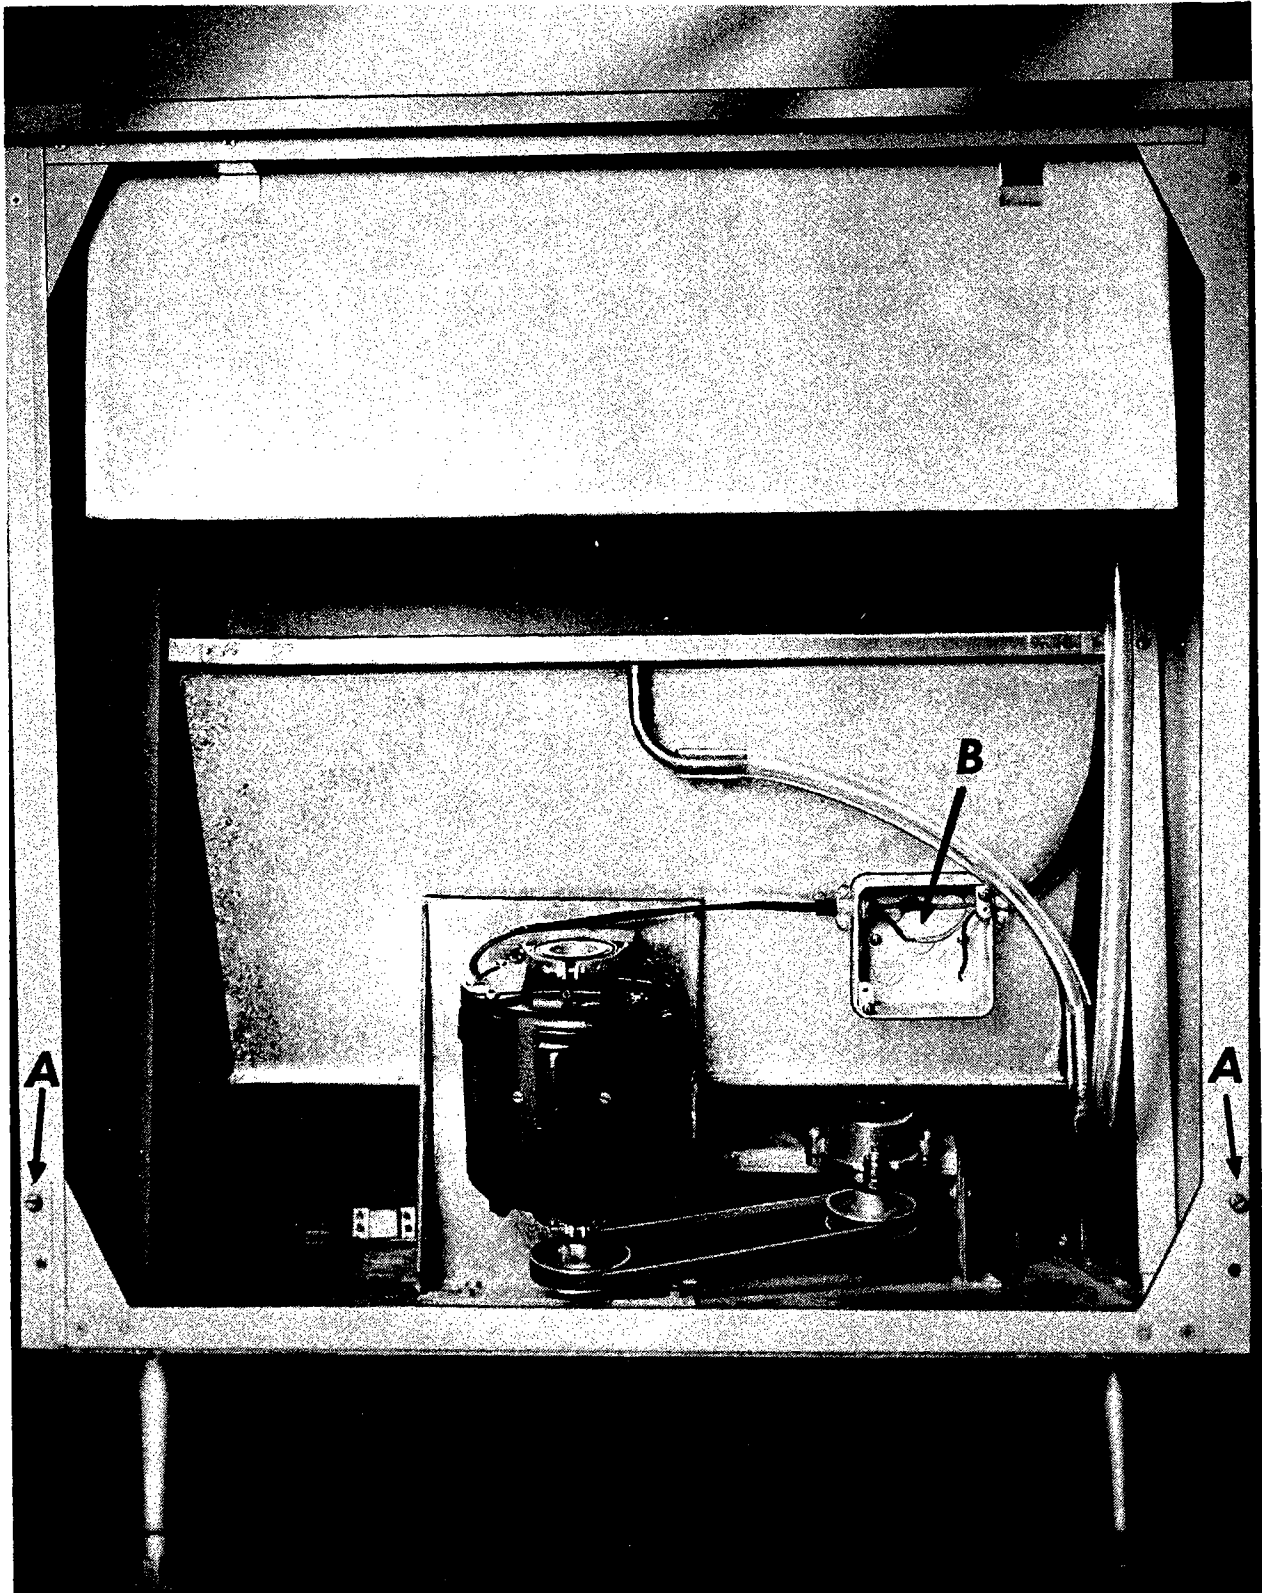

FIG. 3
1. Remove front panel from dispenser by lifting up and off of studs as in Fig. 3.